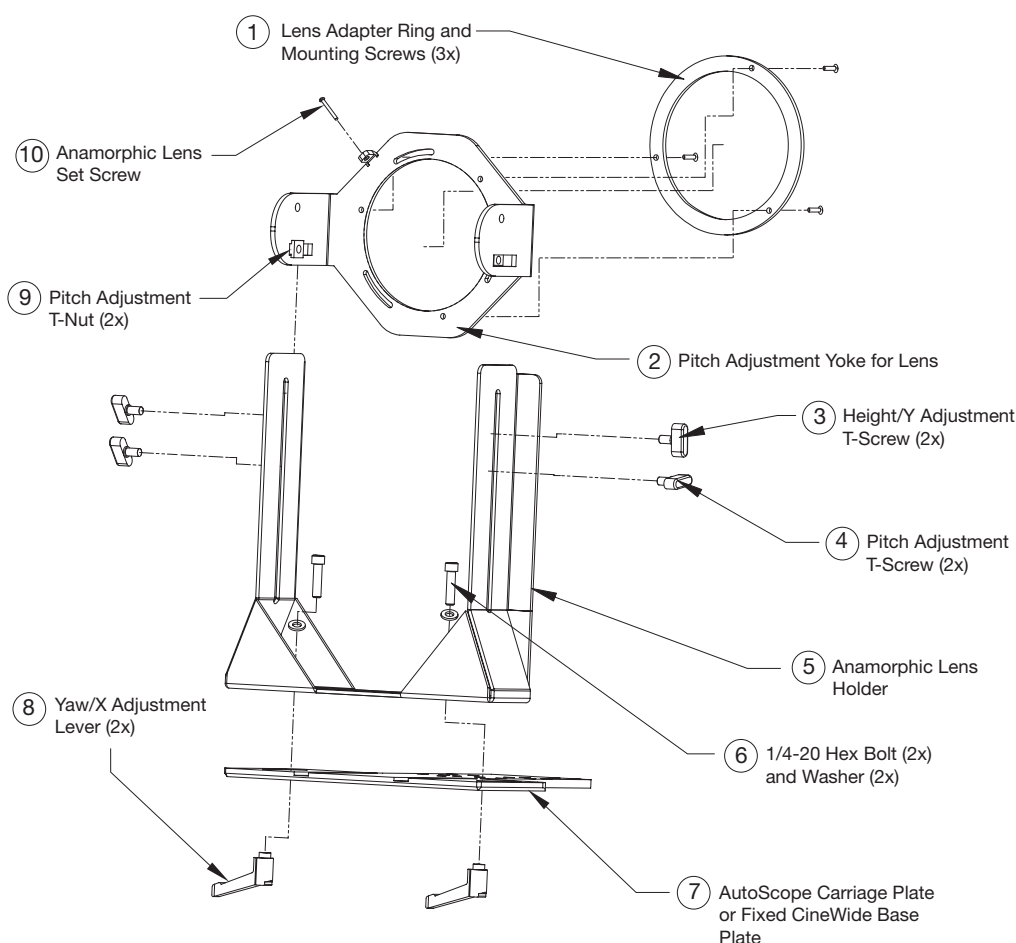

Figure 3-18. Vision 110 Anamorphic Lens Mounting Assembly - Exploded View
The Vision 110 Anamorphic lens mount kit consists of everything shown in Figure 3-18. Some components shipped with your projector may differ slightly from what is shown in these instructions. If any items are missing or damaged, please contact your Vidikron dealer or Vidikron Customer Service at (888) 4VIDIKRON.